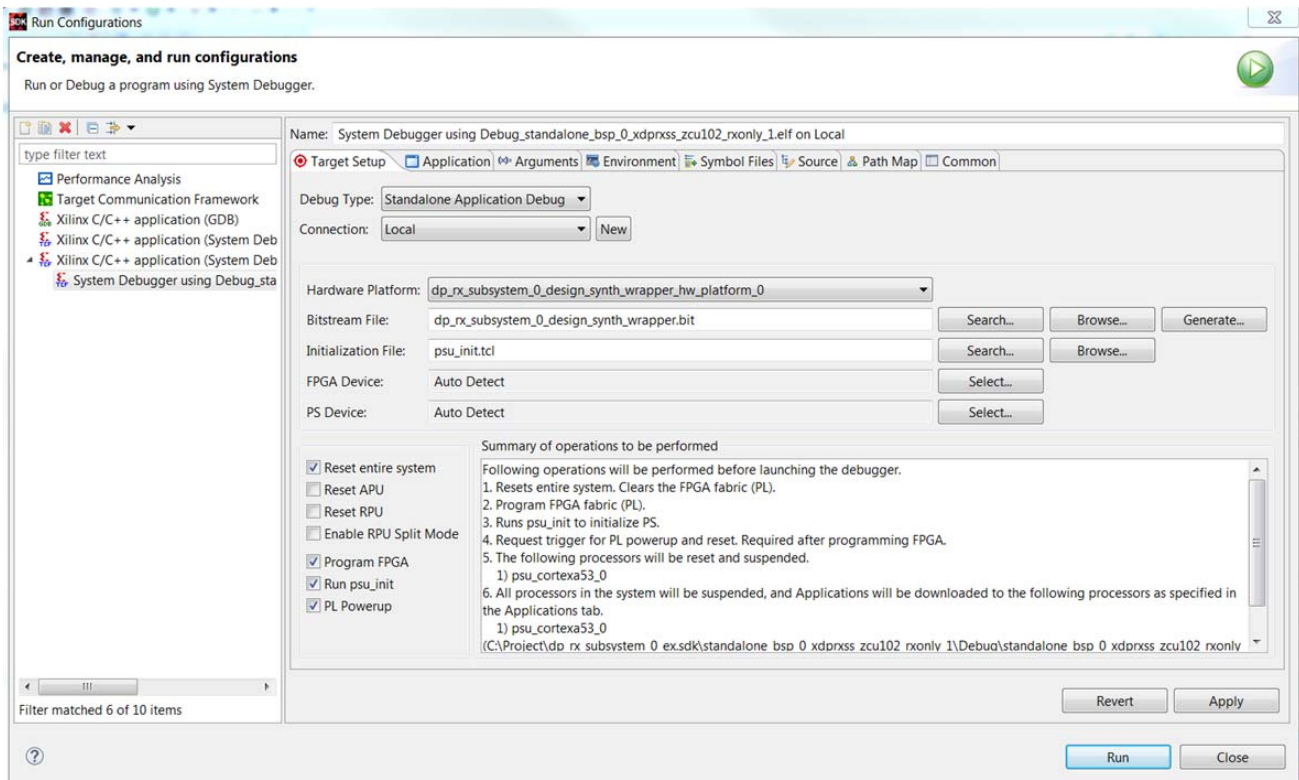

Figure 5-24: Target Setup
11. In the **Target Setup** tab (Figure 5-24), ensure the Connection is set to **Local** and the **Reset entire system** and **Program FPGA** are enabled. If running the ZCU102, also ensure that **Run psu_init** and **PL Powerup** are enabled.